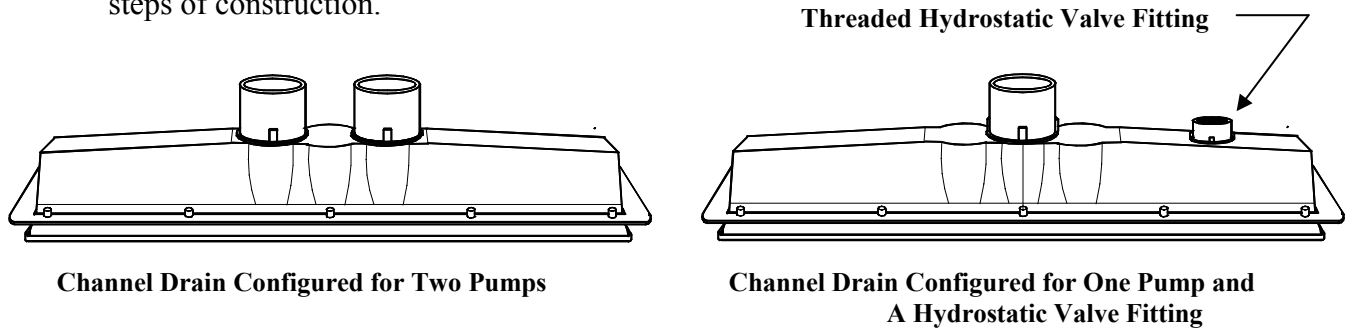

Figure 3
8. Extend the plumbing from the Channel Drain to the pump or pumps. **Note** that the Channel Drain may be configured to accommodate more than one pump by ordering from A&A Manufacturing an additional suction port to the bottom of the unit (see Figure 3).